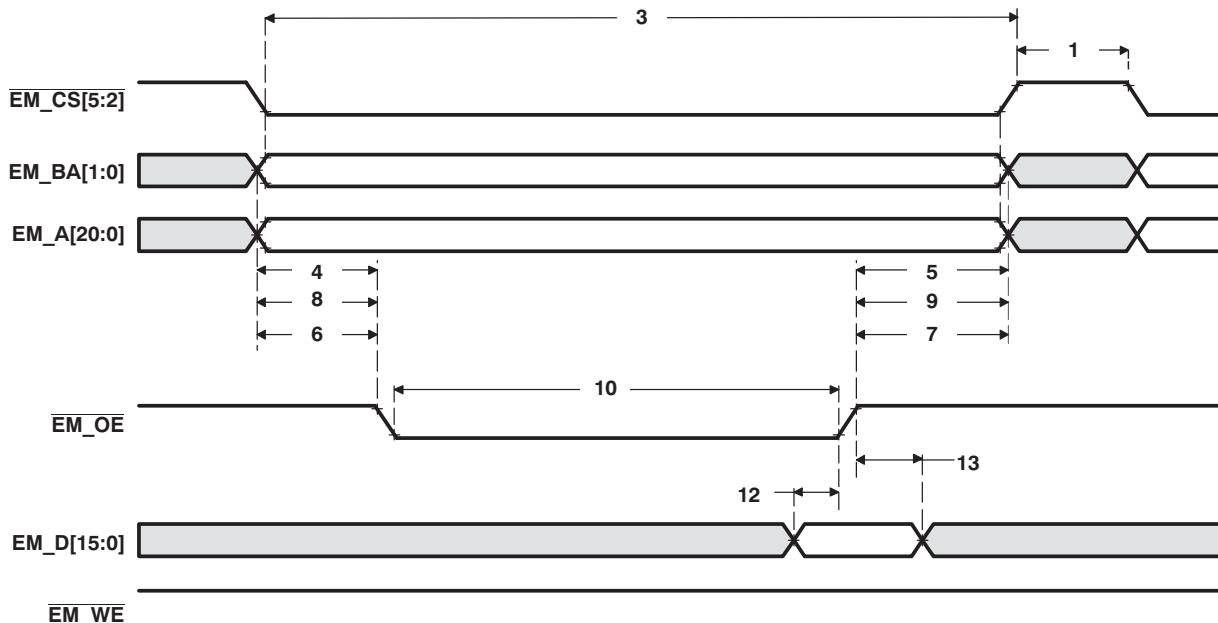
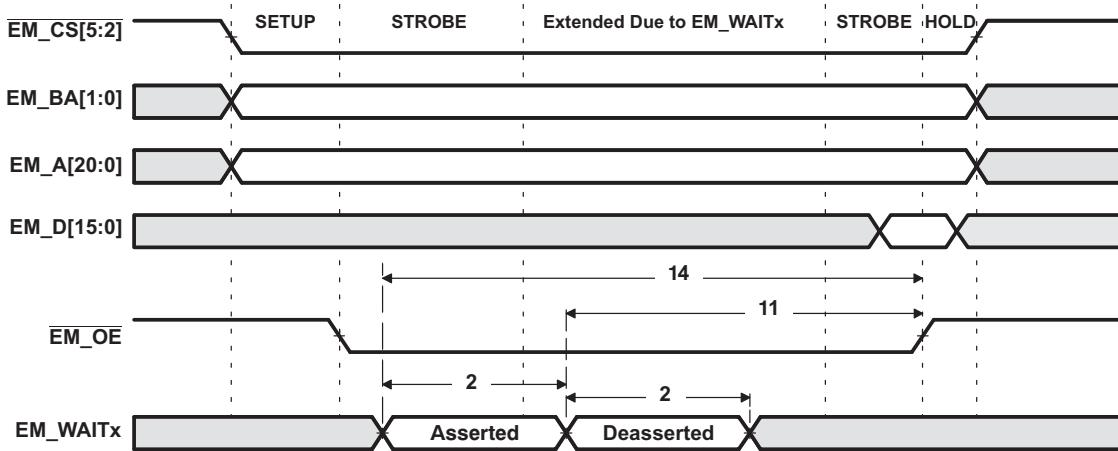
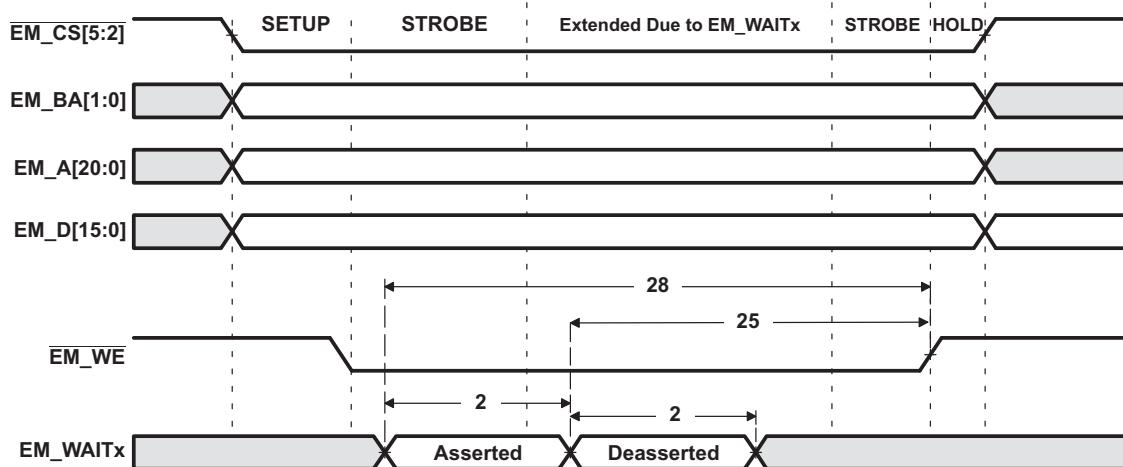

Figure 5-24. Asynchronous Memory Read Timing for EMIF
Figure 5-26. EM_WAITx Read Timing Requirements
Figure 5-27. EM_WAITx Write Timing Requirements
(1) Timing parameters are obtained with 10pF loading on the EMIF pins.
(2) E = SYSCLK period in ns. For example, when SYSCLK is set to 75 or 200 MHz, E = 13.33 or 5 ns, respectively.
(3) Setup before end of STROBE phase (if no extended wait states are inserted) by which EM_WAITx must be asserted to add extended wait states. Figure 5-26 and Figure 5-27 describe EMIF transactions that include extended wait states inserted during the STROBE phase. However, cycles inserted as part of this extended wait period should not be counted; the 4E requirement is to the start of where the HOLD phase would begin if there were no extended wait cycles.
Table 5-27. Switching Characteristics Over Recommended Operating Conditions for EMIF Asynchronous Memory, $DV_{DDEMIF} = 1.8$ V⁽¹⁾⁽²⁾⁽³⁾⁽⁴⁾ (see Figure 5-24, Figure 5-26, and Figure 5-27)
Table 5-27. Switching Characteristics Over Recommended Operating Conditions for EMIF Asynchronous Memory, $DV_{DDEMIF} = 1.8$ V⁽¹⁾⁽²⁾⁽³⁾⁽⁴⁾ (see Figure 5-24, Figure 5-26, and Figure 5-27) (continued)
Table 5-28. Switching Characteristics Over Recommended Operating Conditions for EMIF Asynchronous Memory, $DV_{DDEMIF} = 3.3/2.75 V^{(1)(2)(3)}$ (4) (see Figure 5-24, Figure 5-26, and Figure 5-27)
⁽⁴⁾ (see Figure 5-24, Figure 5-26, and Figure 5-27) (continued)**